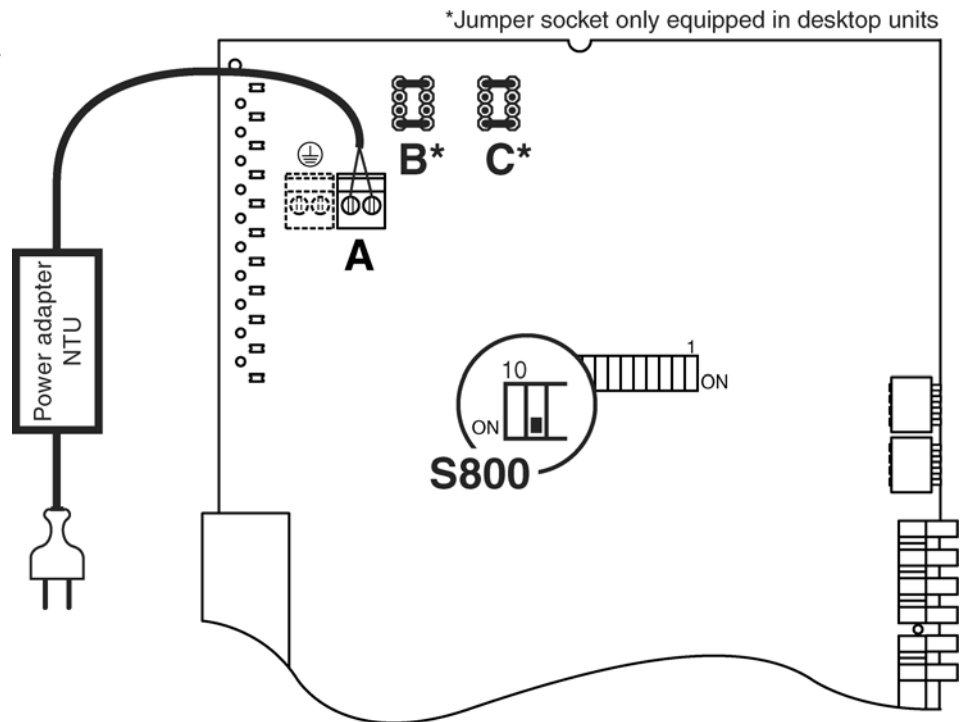

Fig. 2.140 Jumper settings: Desktop unit supplied redundantly with the desktop power adapter NTU
6. Set the jumpers according to Chapter 2.11.4, Fig. 2.140 to remote supply (additional jumpers are included with desktop unit NTU)